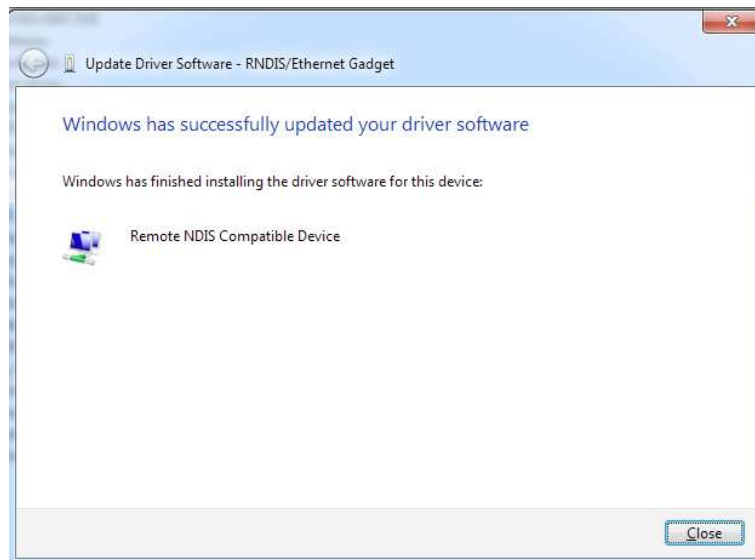

Figure 2-10. Windows 7 Update Driver Software Successfully Updated Window
8. Click "Close" after the software updates. See Figure 2-10.